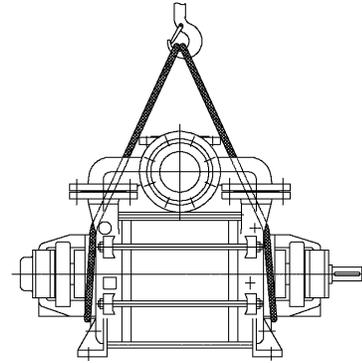

Figure 2
2.1.4 Lift equipment as indicated in figures 2 & 3 maintaining horizontal position using suitable tools. Refer to shipping documents for actual shipping weights.